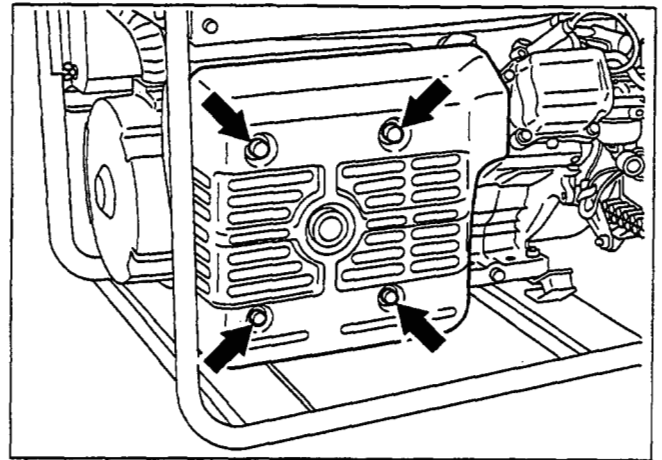

Fig. 10-33
- (7) Tighten the muffler bracket to the generator cover. (See Fig.10-33.)